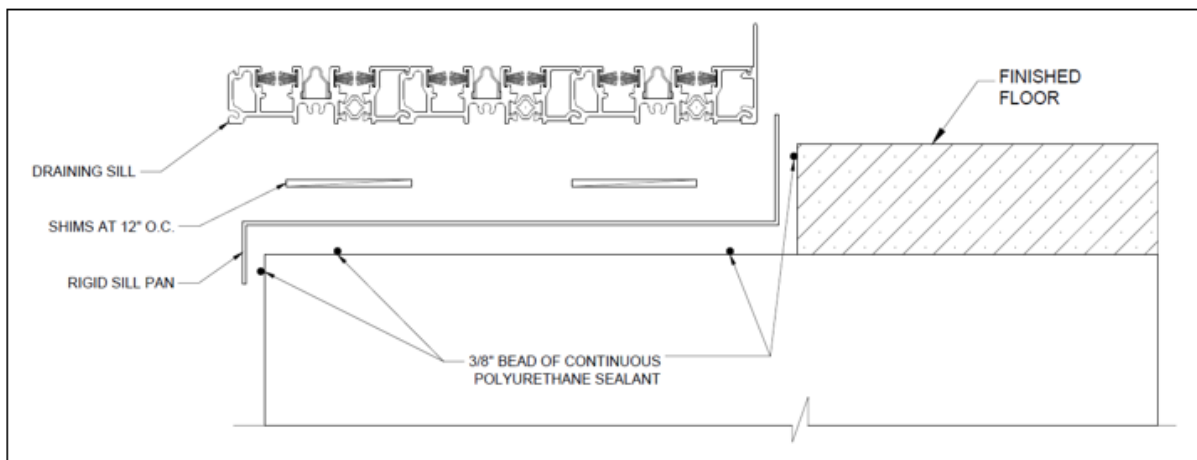

Figure 1
- 2.1 Install a rigid sill pan (supplied by others) into the prepped opening (See Figure 1). Apply four 3/8" continuous beads of polyurethane sealant (supplied by others) across the width of the sill, approximately 1/2" – 1" in from the interior and exterior edges of the rough opening. The sealant should extend 6" up each side of the R.O. Set the sill pan in place and make sure that it is fully seated in the sealant